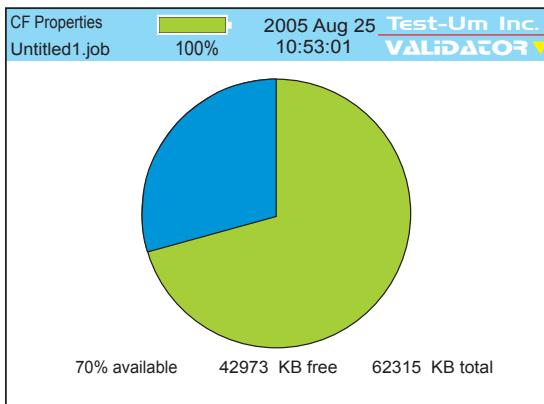

Figure 2.5 Compact Flash Card Properties
4. Select Properties from the Start screen, then Support Info. (Figure 2.5)